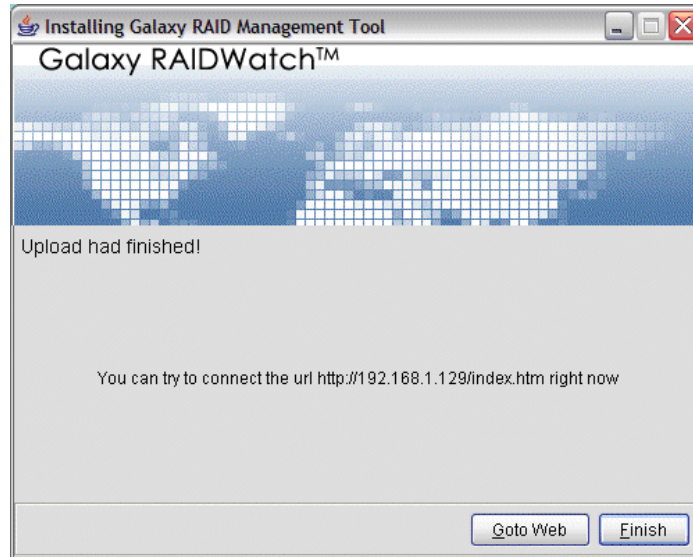

Figure 3-12: Successful Installation
Step 2. Once the software has been successfully installed, a window indicating the successful installation (see *Figure 3-12*) will appear. To complete the process and exit the window, click *Finish*.